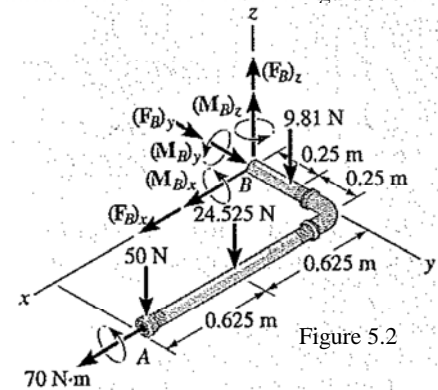

Figure 5.2
**Free-Body Diagram.** The  $x, y, z$  axes are established at  $B$  and the free-body diagram of segment  $AB$  is shown in Fig. 5.2. The resultant force and moment components at the section are assumed to act in the positive coordinate directions and to pass through the centroid of the cross-sectional area at  $B$ . The weight of each segment of pipe is calculated as follows: